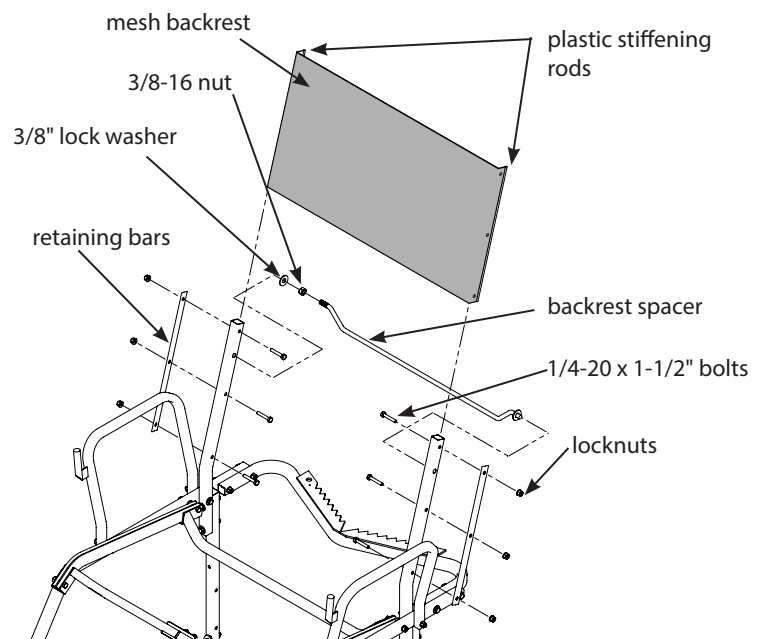

Figure 18
13. Attach the mesh backrest (360022) and the (2) retaining bars (410081) to the backrest mounts using (6) provided 1/4-20 x 1-1/2" bolts and locknuts. **SEE FIGURE 18.** The mesh backrest must wrap around the front side of backrest mounts and the plastic stiffening rod located in the sewn sleeve on each side of the backrest **MUST** be positioned behind the backrest retainer bars to act as a stop and prevent the backrest from pulling out during use. All bolts **MUST** go through the backrest retainer bars, the holes provided in the backrest and the backrest mounts. **SEE FIGURE 18.** Temporary removal of the backrest mount tube from the rest of the assembled ladder top may be necessary to attach the mesh backrest. If this is needed, re-attach backrest mount tubes with mesh backrest to the ladder top assembly.
14. Thread the non-locking 3/8-16 nut onto the threaded end of spacer rod all the way to the bottom of threads and slide 3/8" lock washer on. Insert the threaded end of spacer rod through either backrest mount tube far enough to be able to insert the opposite end of spacer rod (end with welded-on washer) into opposite backrest mount tube. Thread 3/8-16 nut back against mount tube. Using a 9/16" wrench, tighten nut until mesh backrest becomes taut. **SEE FIGURE 18. You must now tighten all nut and bolt assemblies. Be sure not to over tighten or crush tubing when tightening!**